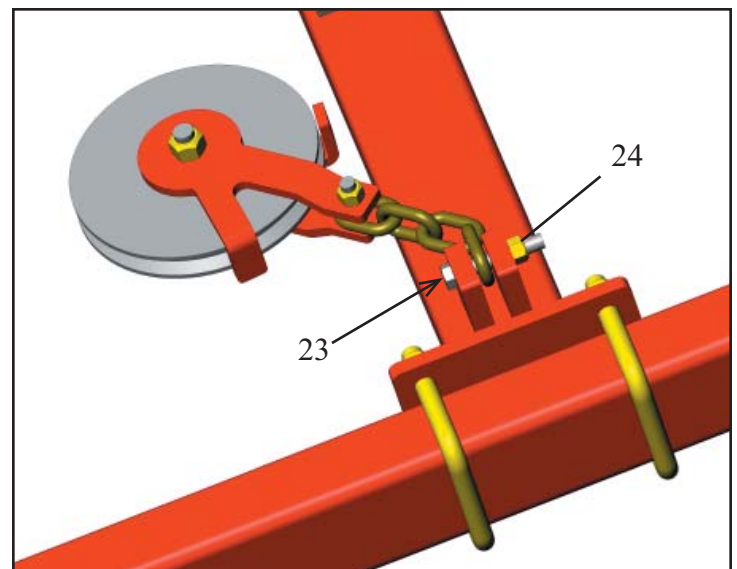

Figure 2.5 - Cable Pulley Assembly
2. Connect the other end of the chain segment (#20) to the connector arm between the rear tabs as shown in *Figure 2.5*. Use a 3/8" x 2-1/4" bolt (#23) and 3/8" locknut (#24).